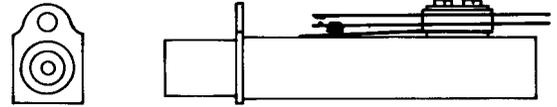

Fig. 11—480-Type Jack
2.06 480B, C, D, and E: These coaxial-type jacks (Fig. 11) are used with the 337-type plugs. The ac test voltage is 500 volts.